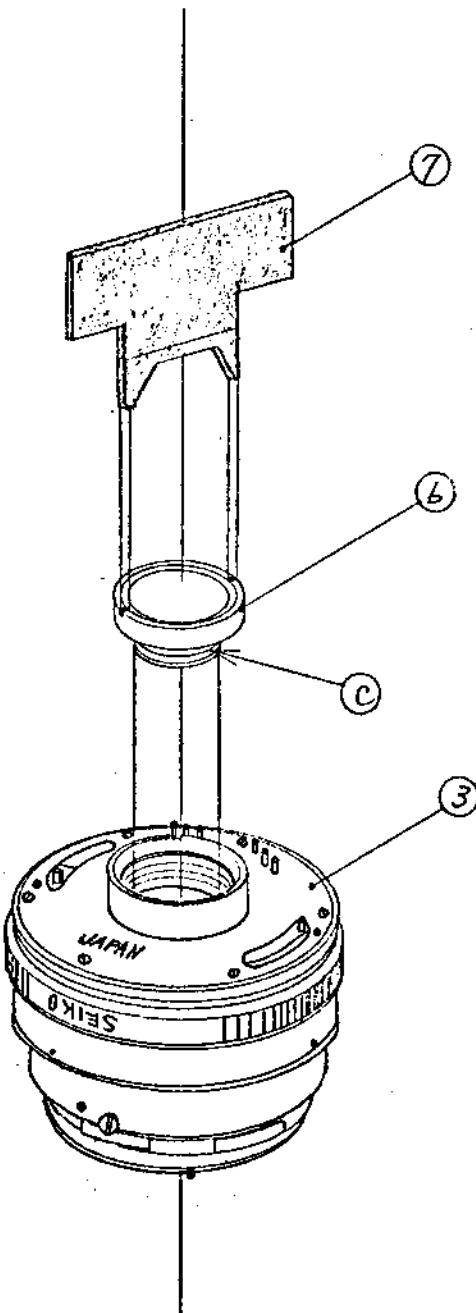

Fig. 2
Apply grease to the threaded portion C of the rear lens group ⑥ and then screw it into the helicoid with front and rear frame installed ③ by using a pin-face wrench ⑦. Fig. 2